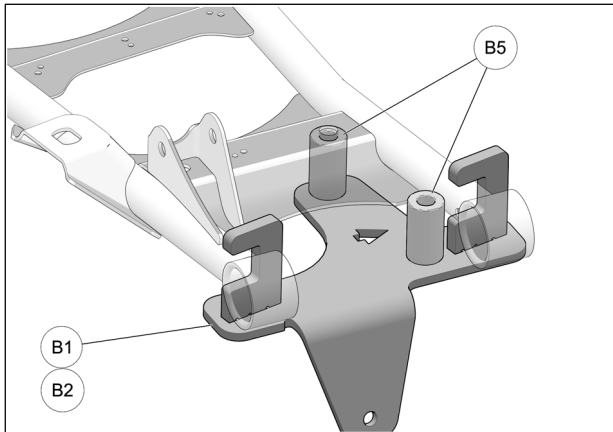

Fig. 4
5. Install spacer bushings (**B5**) between anchor bracket (**B1-B2**) and suspension arm. Align spacer bushings and bolt holes in bracket. See Fig. 4